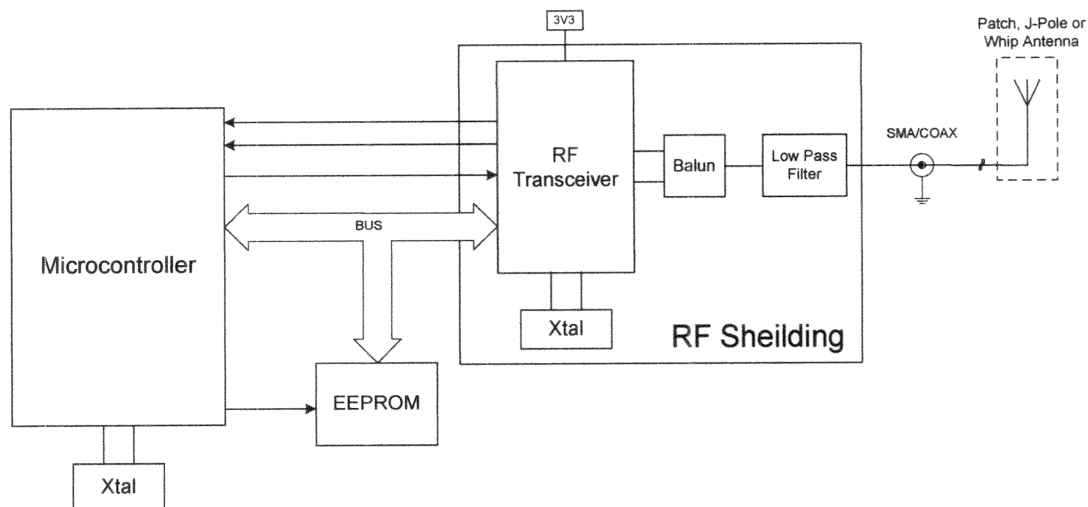

Figure 1
1. All parts of the radio section, the transceiver IC, the crystal, the balun and the RF filter are inside a RF shielding. See the Figure 1 below.